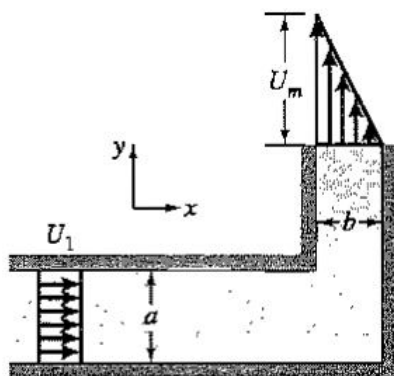

Figure P3.29
3.29 For the constant density flow in the rectangular duct of width W shown in Figure P3.29, find U_m in terms of a , b and U_1 , and the (vector) momentum flux leaving the duct.